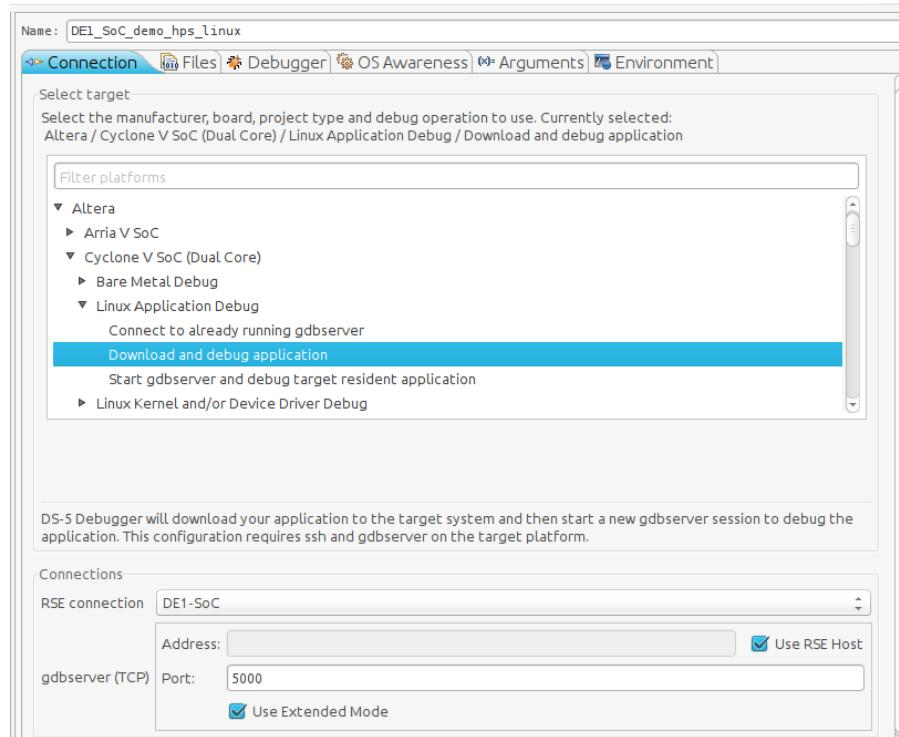

Figure 8-51. Debug Configuration "Connection" Tab
- b. Set the "RSE connection" to "DE1-SoC". This is the remote system connection we created earlier. You should have something similar to Figure 8-51.